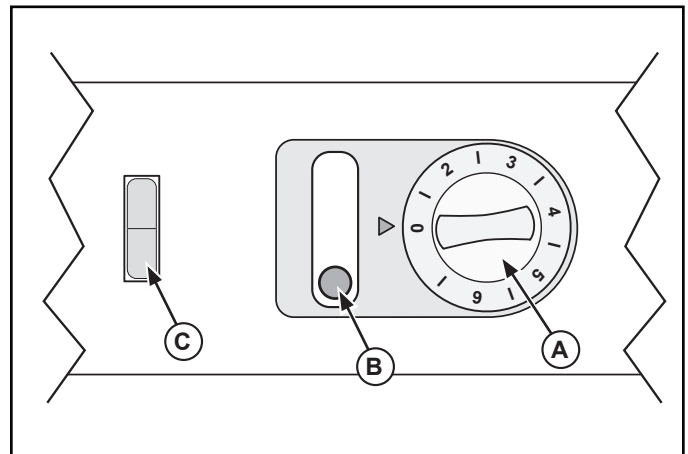

Figure 1. Light Switch, Pilot Light and Temperature Control Dial.
- Switch the light switch (C) "ON" or "OFF" as desired.
- Preheat the water in the well by covering well with empty food containers or covers. Set the temperature control (A) to the maximum setting. Figure 1. Preheat for 30 minutes.
- Set the temperature control (A) to maintain proper hot holding temperature for food safety. Regularly check food temperature.
- Switch the light switch (C) "ON" or "OFF" as desired. See Figure 1.
- Preheat the water in the well by covering well with empty food containers or covers. Set the temperature control (A) to the maximum setting. Preheat for 30 minutes.